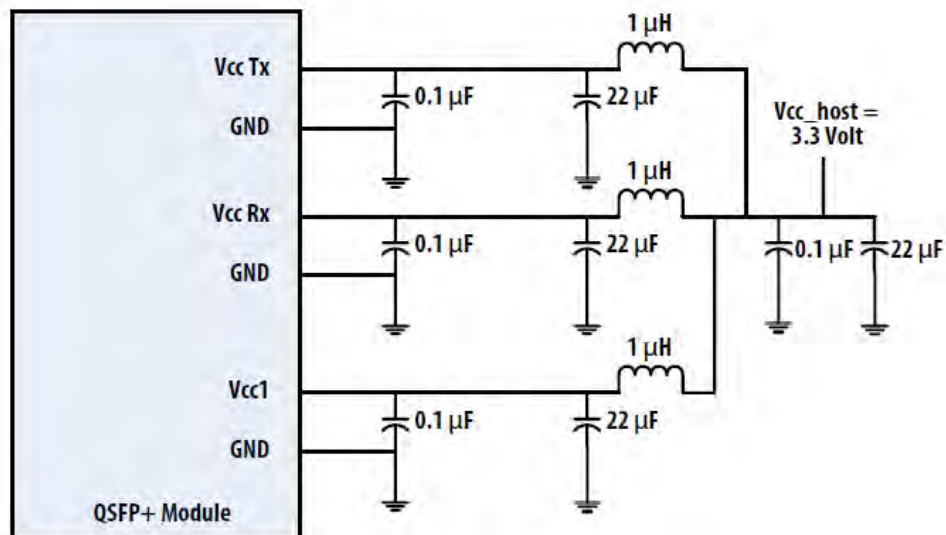

Figure 4. Recommended Power Supply Filter
2. VccRx, Vcc1 and VccTx are the receiving and transmission power suppliers and shall be applied concurrently. Recommended host board power supply filtering is shown in Figure 4 below. Vcc Rx, Vcc1 and Vcc Tx may be internally connected within the QSFP+ transceiver module in any combination. The connector pins are each rated for a maximum current of 500mA.